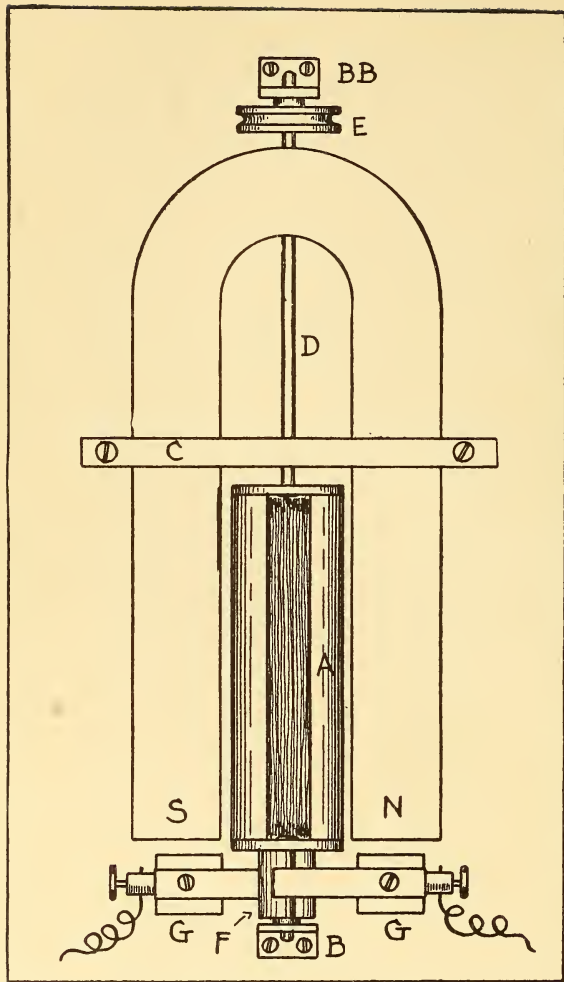

FIG. 10.
Before the steel is tempered there should be four holes bored in the magnet and countersunk, so that screws may be passed through it and into the wooden base below, as shown at Fig. 1. This wooden base is fourteen inches long, eight inches wide, and one inch in thickness. It may be made of pine, white-wood, birch, or any good dry wood that may be at hand. The blocks on which the magnet rests are an inch and a quarter square and seven inches long. The magnet is mounted directly in the middle of the base, an equal distance from both edges and ends, as shown in the plan drawing (Fig. 10). The blocks are attached with glue and brass screws driven up from the underside of the base.
one-eighth of an inch thick cut a piece six inches long, and bore holes at either end through which long, slim, oval-headed brass screws may pass. Use brass, copper, or German-silver for this bar, and not iron or steel. To the underside, and at the middle, solder or screw fast a small block of brass, through which a hole is to be bored for the spindle or shaft. This finished bar is shown in Fig. 2. When mounted over the magnet and held down with brass screws driven into the wood base, its end view will appear as shown in Fig. 3, A being the bar, B B the screws which hold it down, D the base into which they are driven, and C C the blocks under the magnet (N S). The object of this bar is to support one end of the armature shaft. From brass one-eighth of an inch thick bend and form two angles, as shown at Fig. 4. Two holes for screws are to be drilled in the part that rests on the base, and one hole, for the shaft to pass through, is bored near the top of the upright plate. The centre of this last hole must be the same height from the base as is the hole in the bar (Fig. 2) when mounted over the magnet, as shown at Fig. 3. The location of these plates is shown in the plan (Fig. 10). There is one plate at each end of the base, as indicated at B and B B, the shaft passing through the hole in the brass block at the underside of the bar (C). These angles are the end-bearings for the armature shaft, and should be accurately centred so that the armature will be properly centred between the N and S bars of the magnet.
hack-saw cut the tube across in two opposite places, so that you will have the cylinder with two half-circular shells or commutators screwed fast to it, as shown at Fig. 7. This hub will fit over the shaft at the front end of the armature, and will occupy the position shown at F in Fig. 10.
From boxwood or maple have a small wooden pulley turned, with a groove in it and a quarter-inch hole through the centre. This pulley should be half an inch wide and one inch and a half in diameter, as shown at Fig. 9. This is to be attached at the end of the long shaft, where it will occupy the position shown at E in Fig. 10.
By following the plan in Fig. 10, it will be an easy matter to put the parts together; when they are assembled the complete machine will appear as shown in the drawing (Fig. 12).